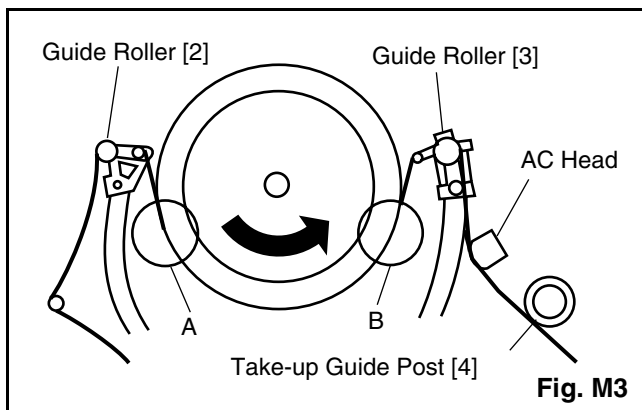

Fig. M3
1. Playback a blank cassette tape and check to see that the tape runs without creasing at Guide Rollers [2] and [3], and at points A and B on the lead surface. (Refer to Fig M3 and M4.)
2. If creasing is apparent, align the height of the guide rollers by turning the top of Guide Rollers [2] and [3] with a Guide Roller Adj. Screwdriver. (Refer to Fig. M3 and M5.)
3. Check to see that the tape runs without creasing at Take-up Guide Post [4] or without snaking between Guide Roller [3] and AC Head. (Fig. M3 and M5)
2. Playback the Gray Scale on the Alignment Tape (FL8N). Set the Tracking Control Circuit to the center position by pressing CH UP button and then "PLAY" button on the unit. Adjust the height of Guide Rollers [2] and [3] (Fig. M3, Page 2-3-3) watching the oscilloscope display so that the envelope becomes as flat as possible. To do this adjustment, turn the top of the Guide Roller with the Guide Roller Adj. Screwdriver.
3. If the envelope is as shown in Fig. M7, adjust the height of Guide Roller [2] (Refer to Fig. M3) so that the waveform looks like the one shown in Fig. M9.
4. If the envelope is as shown in Fig. M8, adjust the height of Guide Roller [3] (Refer to Fig. M3) so that the waveform looks like the one shown in Fig. M9.
5. When Guide Rollers [2] and [3] (Refer to Fig.M3) are aligned properly, there is no envelope drop either at the beginning or end of track as shown in Fig. M9.
Note: Upon completion of the adjustment of Guide Rollers [2] and [3] (Refer to Fig. M3), check the X Value by pushing the CH UP or DOWN buttons alternately, to check the symmetry of the envelope. Check the number of pushes to ensure center position. The number of pushes CH UP button to achieve 1/2 level of envelope should match the number of pushes CH DOWN button from center. If required, redo the "X Value Alignment."